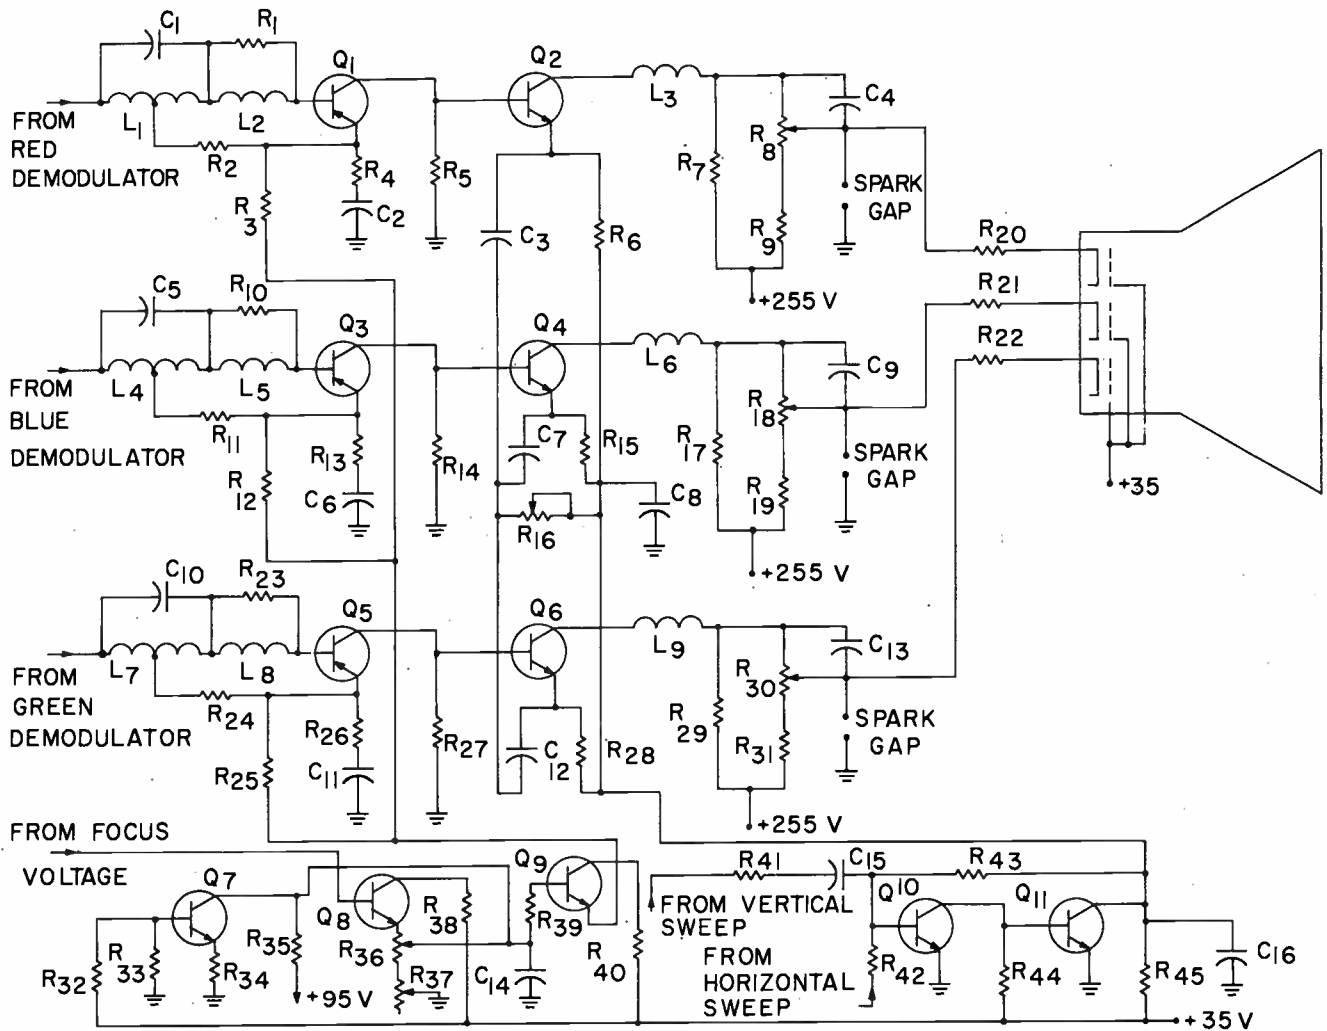

Fig. 36. Color amplifiers with automatic brightness control circuit and horizontal and vertical retrace blanking.
The video color amplifier used with the color demodulator shown in Fig. 15 is shown in Fig. 36. Notice that in each channel we have a two-stage direct-coupled amplifier. The signal from the red demodulator is fed to Q_1 where it is amplified and inverted in polarity. The signal is then directly coupled to the base of Q_2 where it is once more amplified and inverted and then fed to the cathode of the picture tube through R_8 and C_4 .
The circuit shown in Fig. 36 is quite interesting not only because it contains the three direct-coupled color amplifiers, but also because the circuit limits the brightness of the picture automatically in order to control the beam current of the picture tube and to help regulate the high voltage applied. It is also interesting because it includes the retrace blanking circuit.
- (ab) How is the dc path in the emitter of Q_4 in Fig. 36 completed?
- (ac) What effect on the cathode voltage of the picture tube in Fig. 36 does increasing the setting of the brightness control have?